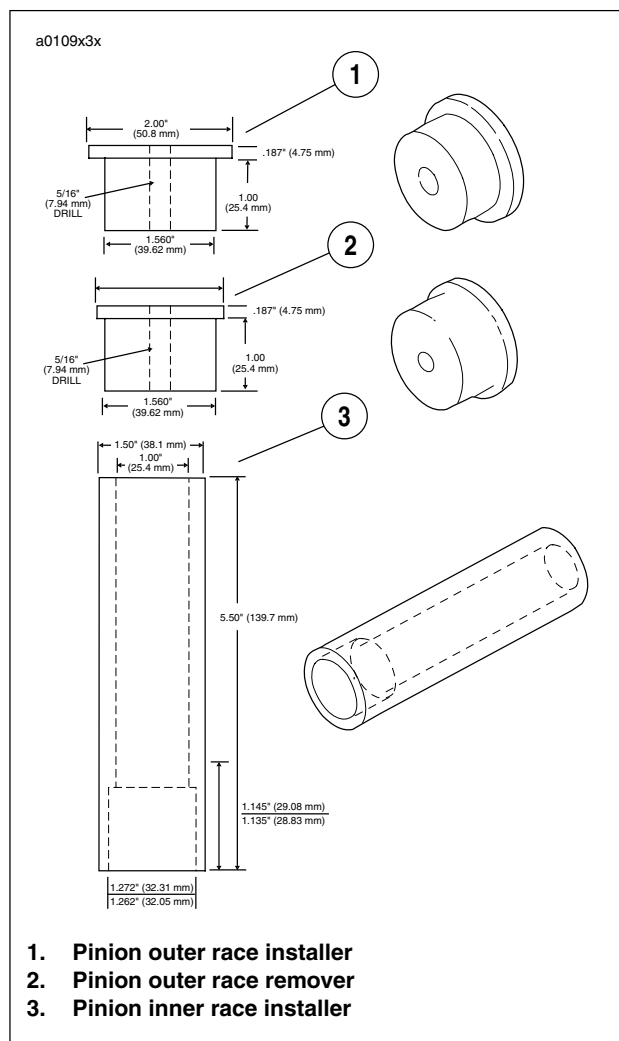

Figure 3-143. Pinion Shaft Bearing Tools
See Figure 3-143. Dimensions are shown for fabrication of tools used in pressing the outer race into or out of crankcase.
- For necessary dimensions for constructing a press-on tool for the pinion bearing inner race see Figure 3-143.